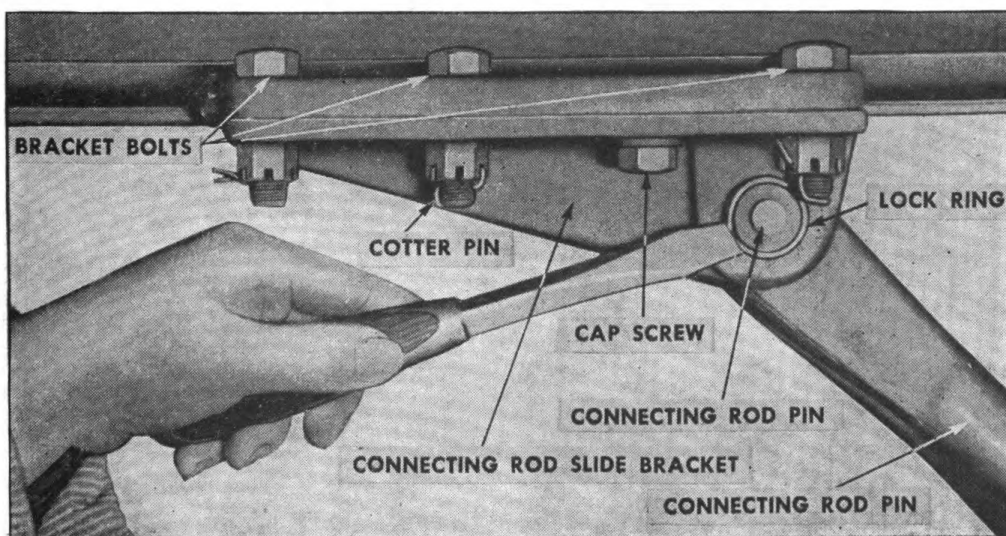
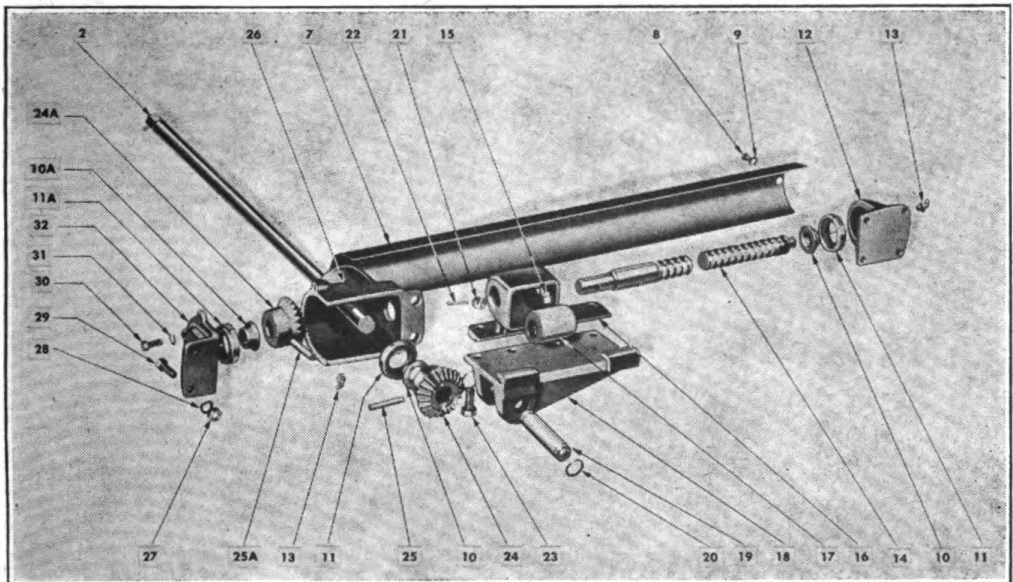
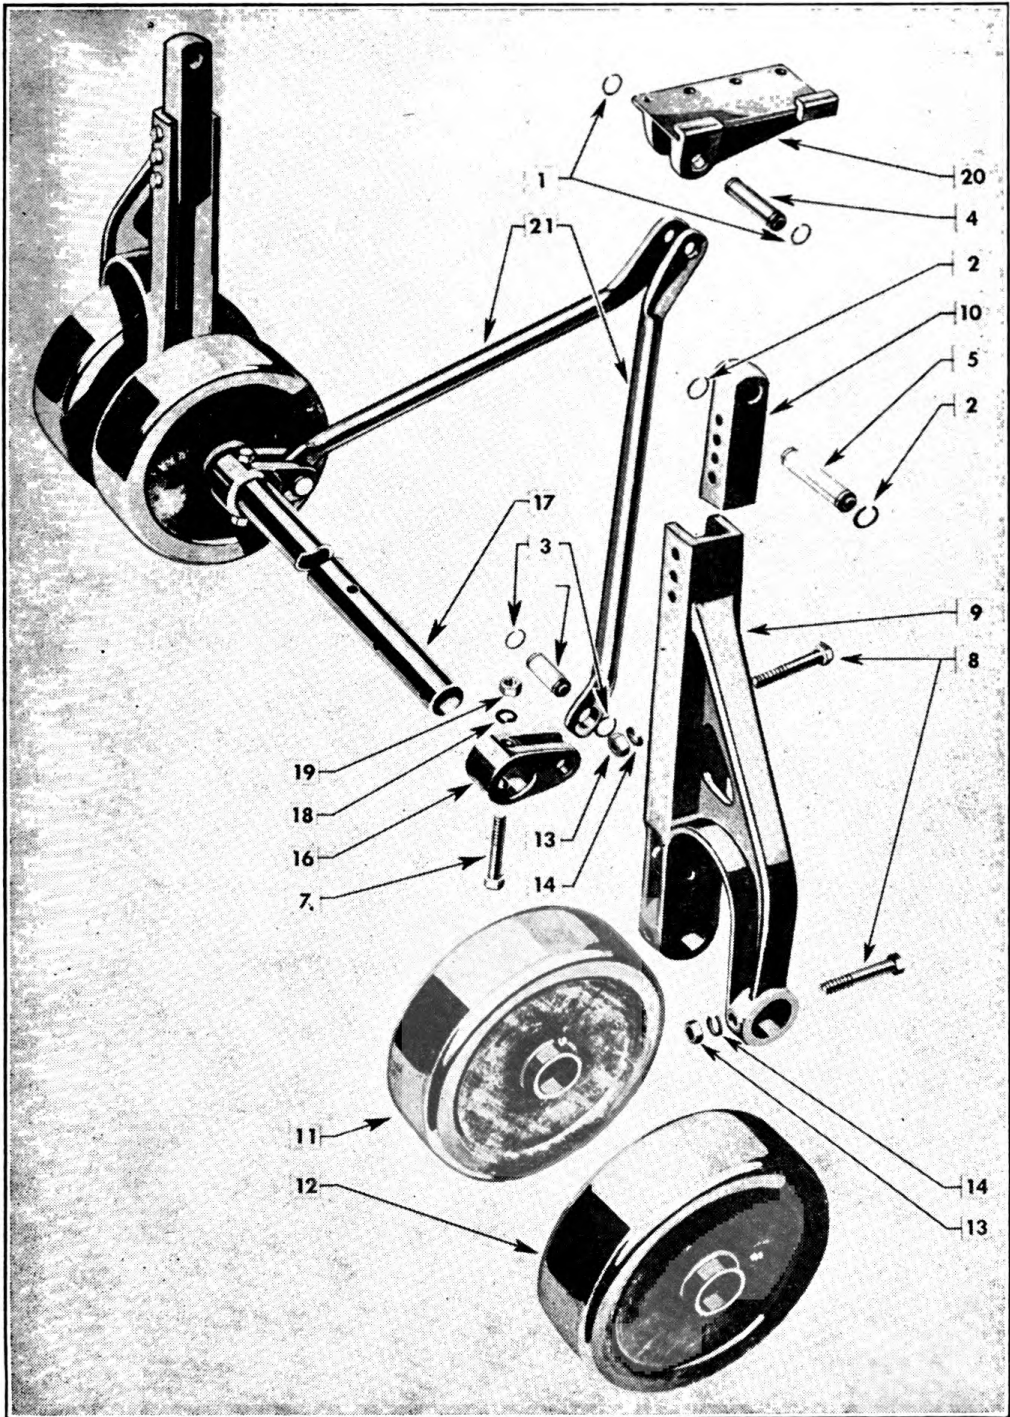

FIGURE 74. REMOVING CONNECTING ROD PIN.
FIGURE 78. SUPPORT OPERATING MECHANISM—EXPLODED.
FIGURE 79. SUPPORT WHEEL ASSEMBLY.
2. REMOVAL OF OPERATING ASSEMBLY ATTACHED TO I-BEAM.—*a.* Wind supports down until stop is reached. Place screwdriver into slot of lock ring; open lock ring and pry it off connecting rod pin (Fig. 74), and drive pin out.
3. REPLACEMENT OF OPERATING ASSEMBLY ATTACHED TO I-BEAM (Fig. 78).—*a.* Fill gear housing with a light grade of chassis lubricant.
b. Install bearing (11) and bearing sleeve (10) into rear bearing cap (12) (Fig. 78). Place a small daub of chassis lubricant into bearing.
4. DISASSEMBLY OF OPERATING ASSEMBLY (Fig. 78).—*a.* Remove assembly as outlined in paragraph 2, this section.
b. Remove three cap screws (30), lift cap (32) off of gear housing (26).
c. Turn nut housing (16) off screw (14).
- d. Pull screw (14) with gear (24A) attached, out of gear housing (26).
- e. Place screw (14) across wood block and drive pin (25A) out of gear (24A) using a long tapered $\frac{5}{16}$ " punch.
- f. Pull operating shaft (2) with gear (24) attached, out of housing (26).
- g. Place operating shaft across wood block and with the aid of a $\frac{5}{16}$ " long tapered punch, drive pin (25) out of gear (24) and tap gear off shaft.
5. REASSEMBLY OF OPERATING ASSEMBLY (Fig. 78).—*a.* Place gear (24) over shaft (2) with gear teeth to outside (Fig. 78). Drive drive pin (25) through hole in gear and shaft.
b. Place bearing sleeve (10) over end of operating shaft (2) with flange toward gear. Place bearing (11) over operating shaft (2) with concave surface over convex surface of bearing sleeve. Place shaft assembly through gear housing (26).
c. NOTE: Gears (24) and (24A) are interchangeable; bearings (11) and (11A) are interchangeable; drive pins (25) and (25A) are interchangeable; bearing sleeve (10) and (10A) are interchangeable.
d. Place gear (24A) over riser screw (14) with teeth facing thread on riser screw; fasten gear to riser screw, using drive pin (25A).
e. Place riser screw through hole in gear housing (26) so that teeth on both gears jibe.
f. Place bearing (11A) into bearing cap (32) with concave surface out and install sleeve (10A) into bearing with flat surface out.
g. Place bearing cap over end of riser screw and fasten cap, using three cap screws (30).
6. DISASSEMBLY OF WHEEL AND AXLE ASSEMBLY (Fig. 79).—*a.* Disconnect connecting rods (19) and slide bracket (20). (See illustration Fig. 74.)
b. Remove lock ring (2) from outer side of pin (5) and drive out the pins.
c. Remove bolts (8) from strut (9) and with a heavy hammer drive strut and wheels off axle.
d. Remove lock ring (3) from pin (6); remove bolt (7) and tap connecting rod link (16) off axle.
e. NOTE: All parts, as illustrated in Fig. 79 are interchangeable from right to left and vice versa.
f. CAUTION: Make final inspection, prior to placing this unit in operation after supports have been worked upon, to make certain all bolts are in their proper place, and tighten down. Check to make certain lock rings have been placed on all hinge pins, see Fig. 79 for position of all hinge pins and lock rings.